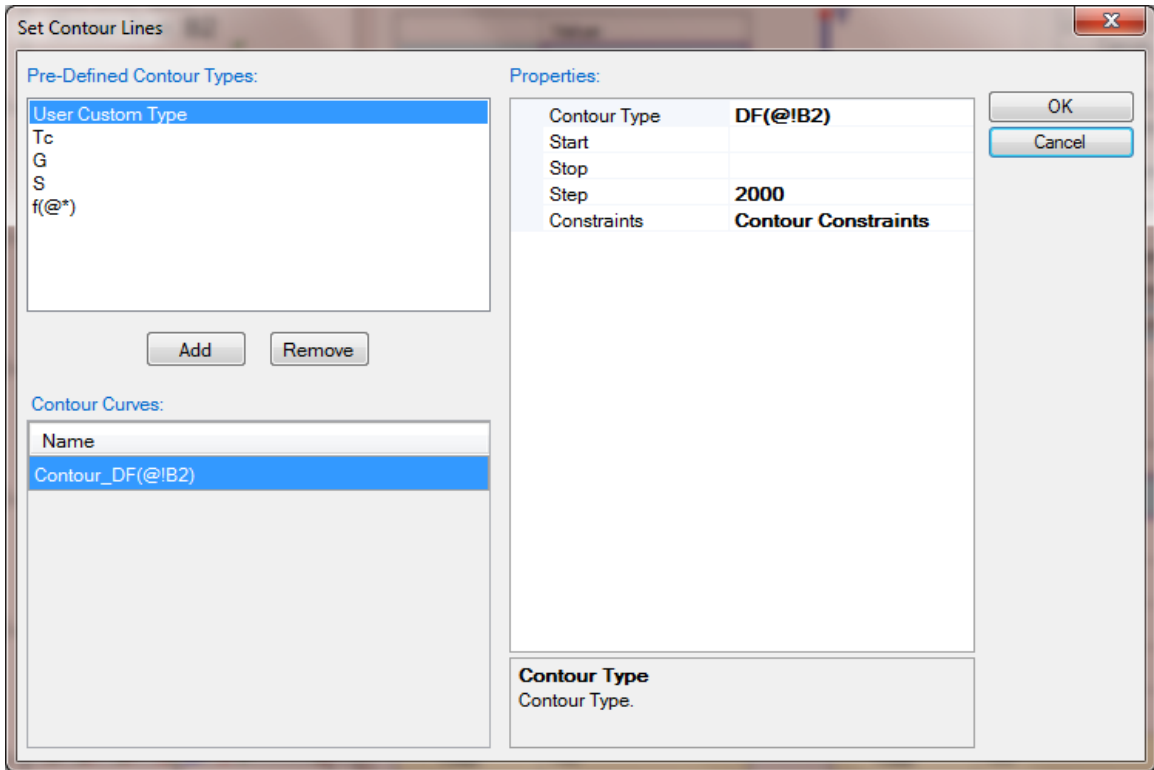
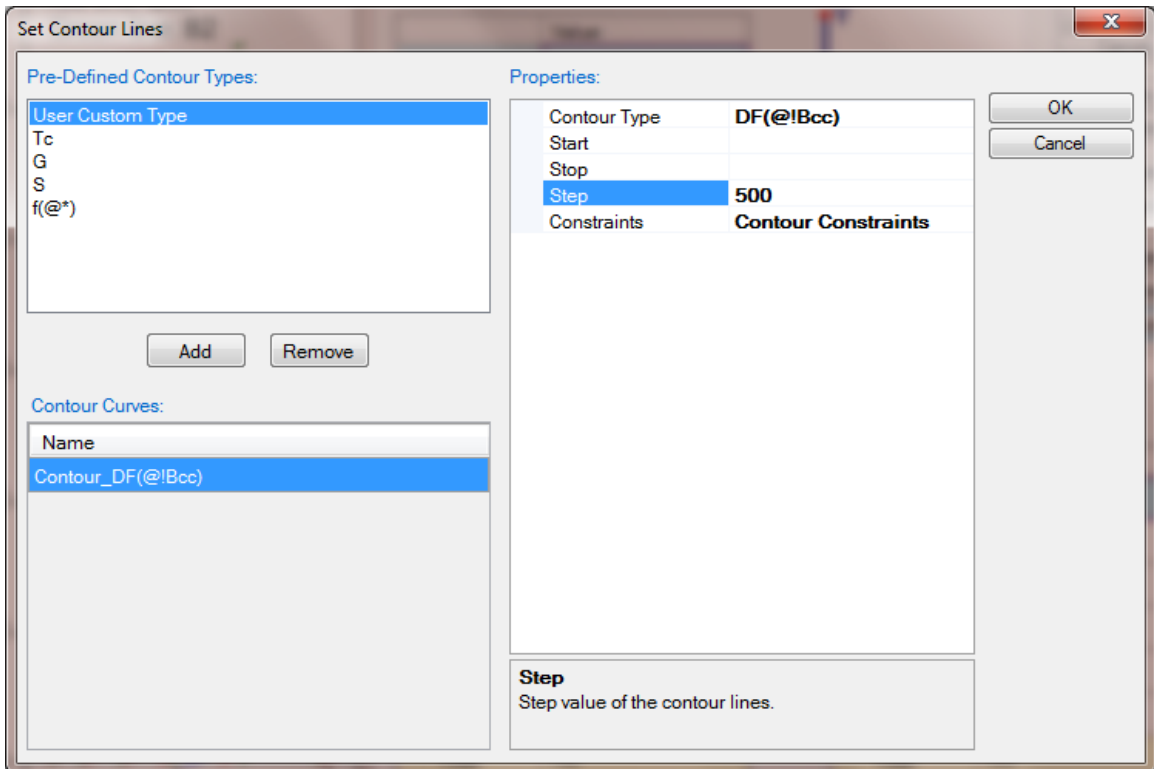

Figure 1.20.4: Setup calculation of driving force contour lines for B2 phase
Figure 1.20.5: Setup calculation of driving force contour lines for Bcc phase
- Click “Contour Lines” and then set the Contour Type as shown in Figure 1.20.4 to calculate the driving force contour lines for B2 phase, click OK;
- Click “Contour Lines” and then set the Contour Type as shown in Figure 1.20.5 to calculate the driving force contour lines for Bcc phase, click OK;
- After operation of Figure 1.20.4, a diagram with driving force contour lines of B2 will be plotted, and after operation of Figure 1.20.5, a diagram with driving force contour lines of Bcc will be plotted;